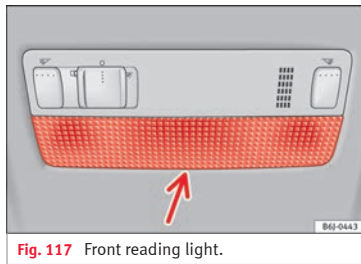

Fig. 117 Front reading light.
- Insert a fine screwdriver between the casing and the glass »» **Fig. 117**.